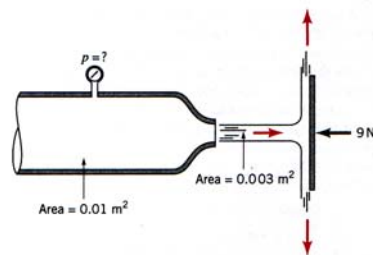

Fig. 5
5. Air flows into the atmosphere from a nozzle and strikes a vertical plate shown in Fig. 5. A horizontal force of 9 N is required to hold the plate in place. Determine the reading on the pressure gage. Assume the flow to be incompressible and frictionless. (Note: $\rho_{air} = 1.23 \text{ kg/m}^3$)